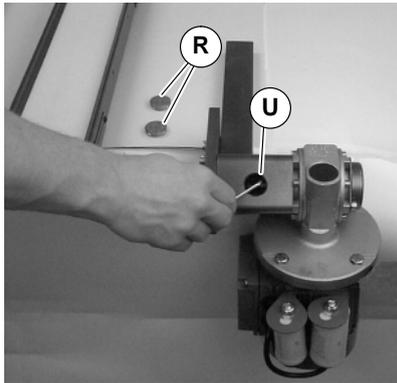

Figure 30
- Tighten coupling set screws (U of Figure 30). Replace inspection plugs (R).